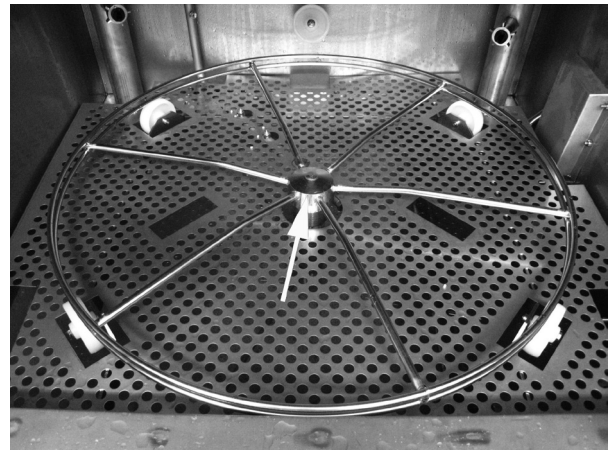

Figure 2: Basket wheel
2. Put the basket wheel in place (see Figure 2 Basket wheel).